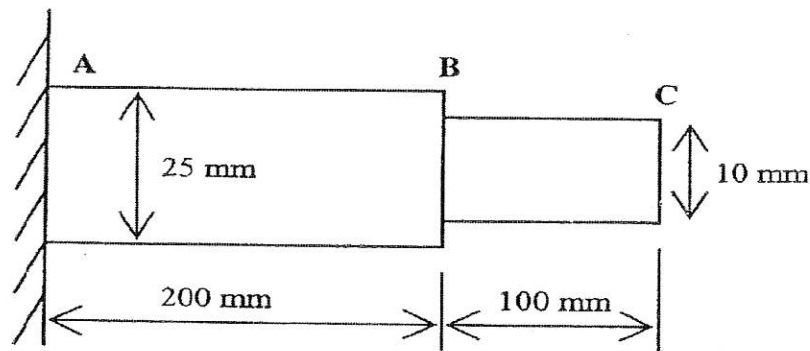

Figure 6
- b) A solid shaft which consists of two portions, portion AB and portion BC, is subjected to a torque of 100 Nm at the end of BC as shown in Figure 6 below. Determine the value of the maximum shear stress in the shaft and total angle of twist in radian if $G = 75 \text{ GN/m}^2$.